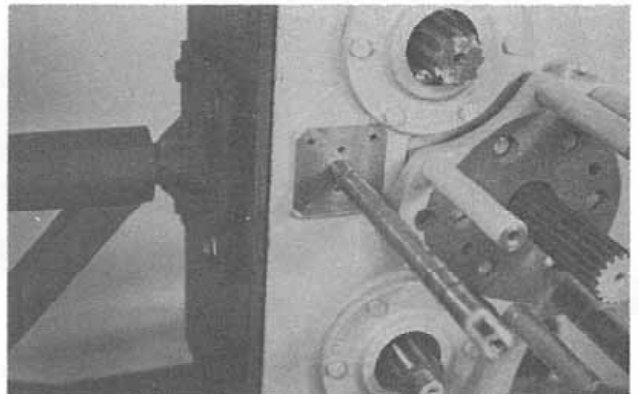

Figure 3:
4. Remove the shift fork cap screw and withdraw the shift rod from the front of the housing (Fig. 3). The shift fork is now free for removal.